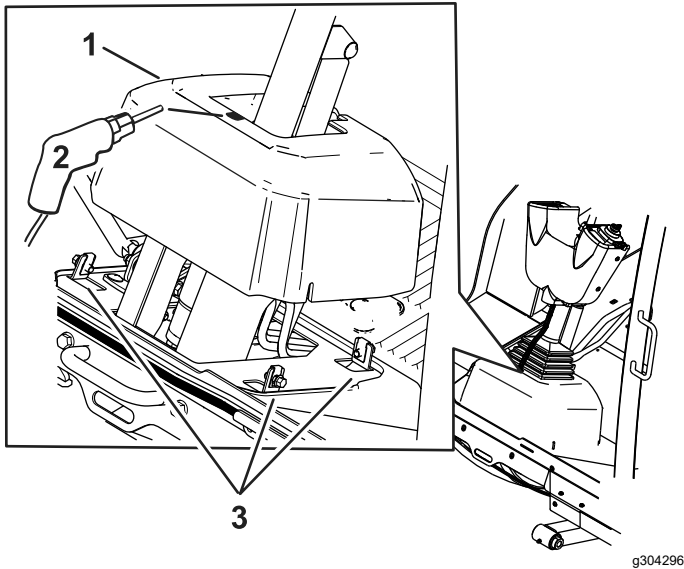

Figure 13
1. Loosen the bolts around the steering-column base (Figure 13)
2. Raise the base up and drill a 22 mm (7/8 inch) hole as shown in Figure 13.